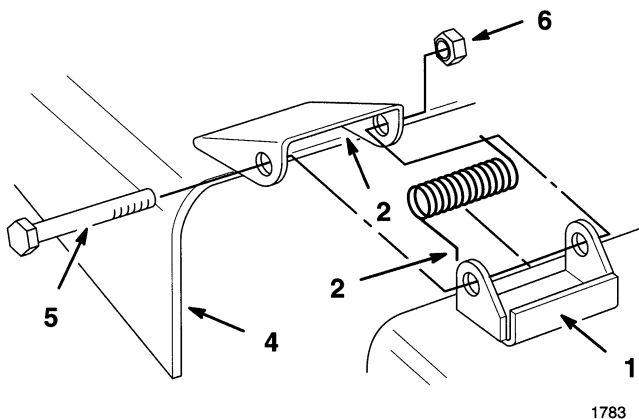

Figure 1
1. Place springs into brackets on mower with hooked ends over raised back (Fig. 1).
2. Align grass deflector with holes in brackets and spring straight ends in space under hinge and above deflector (Fig. 1).
3. Secure deflector to bracket with bolts through grass deflector, springs and brackets. Secure with lock nuts (Fig. 1).